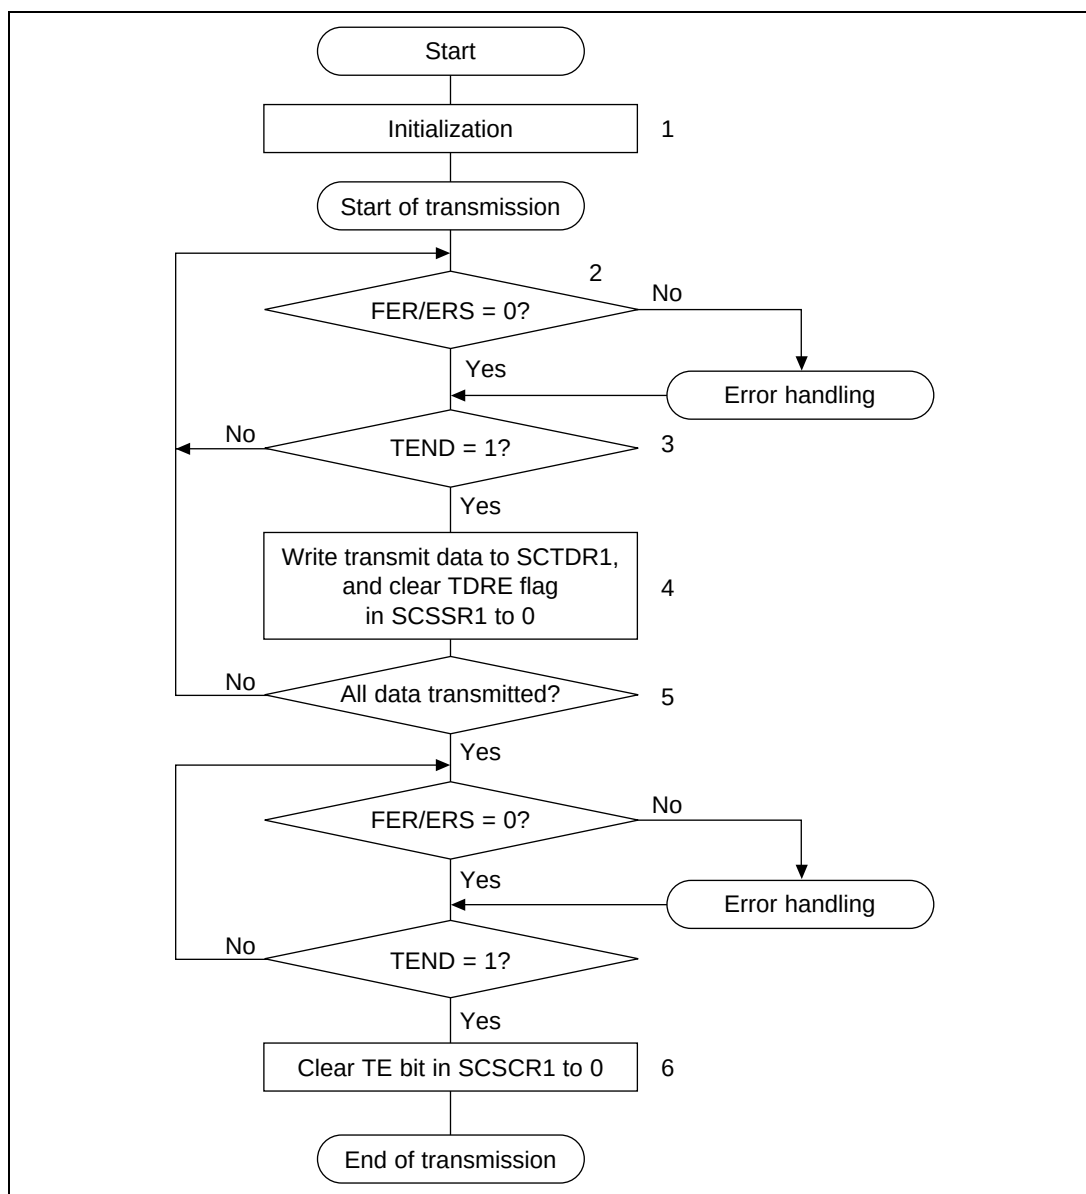

**Figure 17.8 Sample Transmission Processing Flowchart**
**Serial Data Transmission:** As data transmission in smart card mode involves error signal sampling and retransmission processing, the processing procedure is different from that for the normal SCI. Figure 17.8 shows a sample transmission processing flowchart.